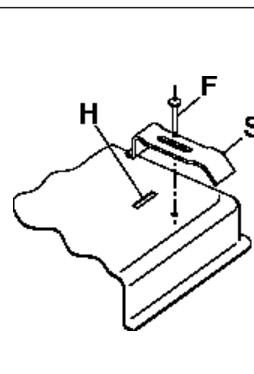

FIG. 10
- Fix the hob with the proper brackets "S" and fit the prominent part into the porthole "H" on the bottom; turn the screw "F" until the bracket "S" stick on the top (fig. 10).